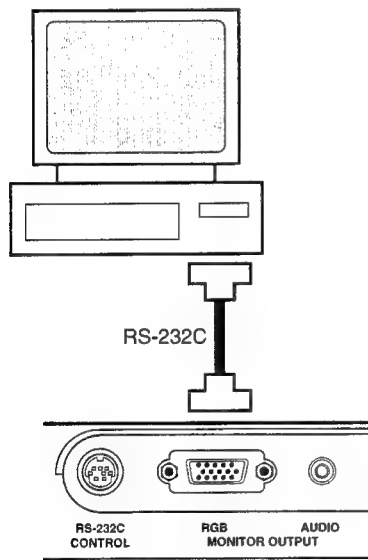

Fig. 1-4-1
- 1) Connect a computer as shown in Fig. 1-4-1, and then perform the adjustment using the adjustment software TLP65CTLS.EXE. (When using a drive C, type C: ¥TLP65CTLS.EXE and press enter key.)